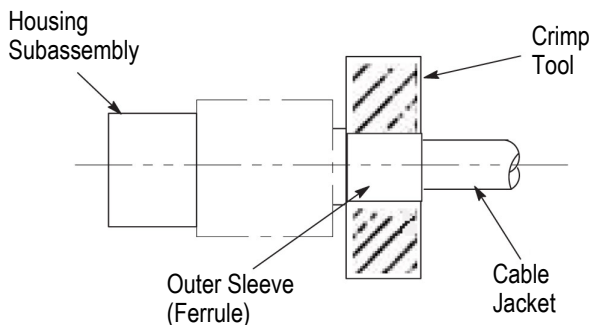

Figure 4
4. With the cable firmly seated, crimp the cable braid in place. See Figure 4.